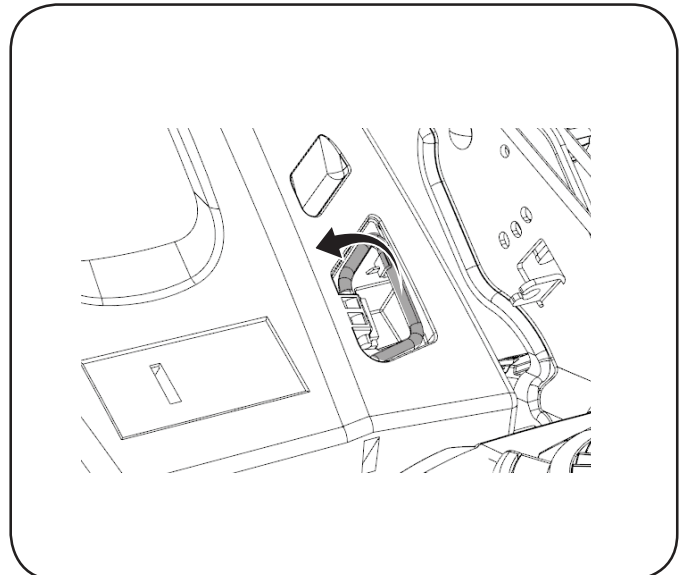

Figure 6
2. Lift the rear discharge handle to extend it on the back side of the discharge door (Figure 6).